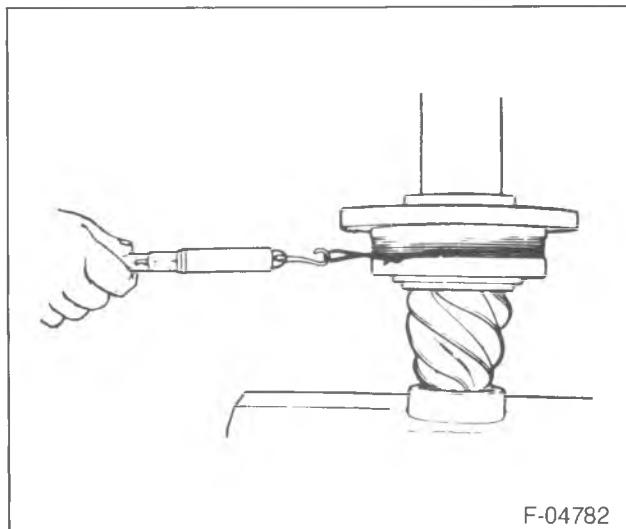

Figure 15—Measuring the Preload Torque
- Pinion pilot bearing (52) onto the pinion.
- Bearing lock ring (51).
- Pinion (37) into the cage (54).
- Pinion front bearing (57).
- Wrap a soft wire around the cage and pull on the line with a pound scale. Measure the rotating torque, not the starting torque (figure 15).